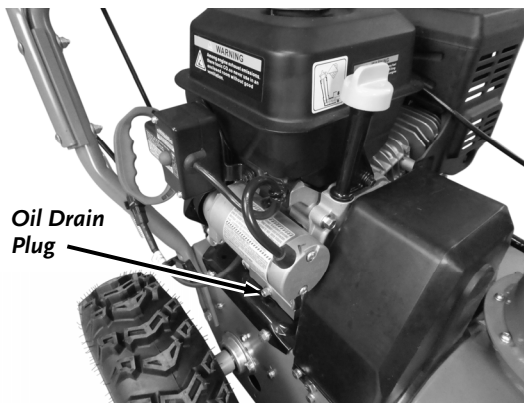

Figure 37
1. Position the machine so the Frame and Engine are level and place a Waste Oil Container under the Oil Drain Plug (**Figure 37**).